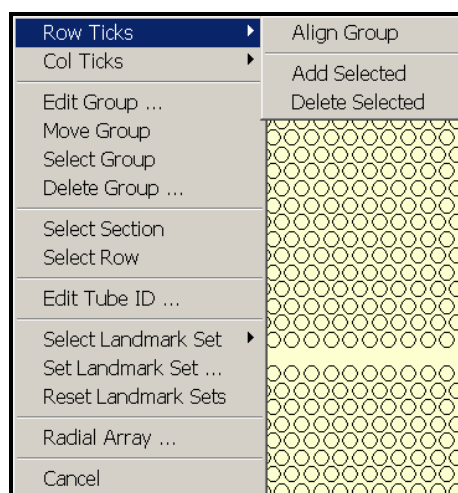

Figure 47. Popup Menu – Row Ticks Fly-out Menu
- ❑ **Popup | Row Ticks:** Clicking the **Row Ticks** selection on the **Popup** menu displays the fly-out menu shown in Figure 47. Each selection is discussed below:
- **Popup | Col Ticks:** Clicking the **Col Ticks** selection on the **Popup** menu displays a fly-out menu with the same choices shown in Figure 47. These three (3) features function in the same way as the **Row Ticks** selection previously discussed, except for column ticks instead. Please refer to the **Popup | Row Ticks** topic above for use of these features.